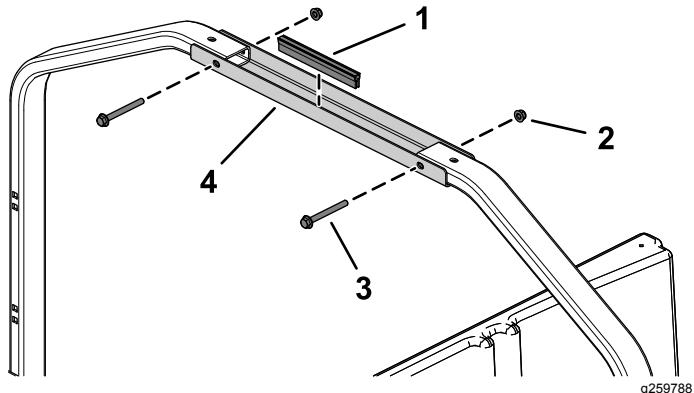

Figure 13
2. Secure the tube-mounting bracket to the rear mounting tubes using 2 flange-head bolts (5/16 x 3 inches) and 2 flange nuts (5/16 inch) as shown in Figure 13.
3. Install the trim seal onto the tube-mounting bracket (Figure 13).